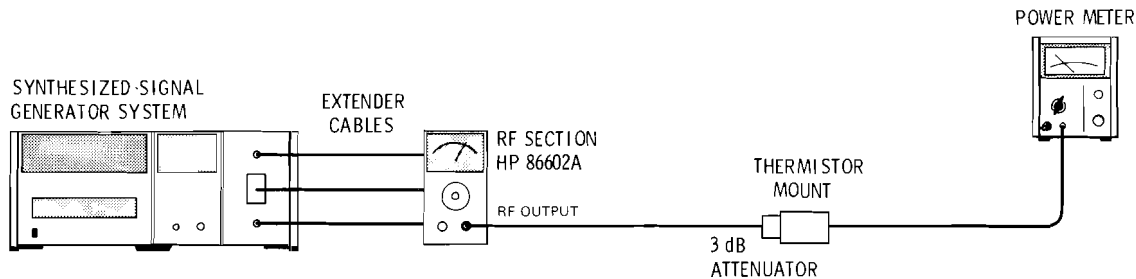

Figure 5-1. RF Output Level Adjustment Test Setup
2. Interconnect equipment as illustrated in Figure 5-1.